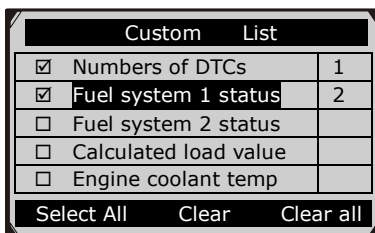

Figure 6.15
- 2) Use the **UP/DOWN** scroll button to move up and down to the desired items and click **Select** button to confirm. The selected parameters are marked with solid squares (Figure 6.15).